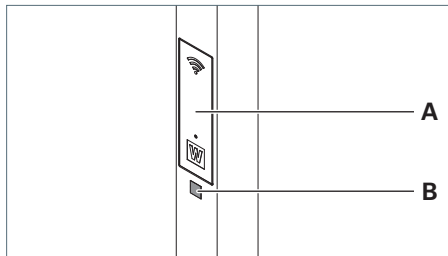

Fig. 28: Scanning QR code.
- Scan the QR code **B** of the luminaire which is located underneath the service flap **A** on the column, see Fig. 28.